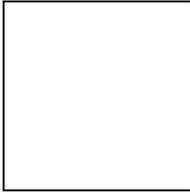

Figure 9
- Installing the reversing switch is done in two steps as shown in Figure 9. **Step 1:** connect the molex cable A. **Step 2:** once connected, push the connectors through the hole into the machine while at the same time securing the switch to the machine using the supplied 12mm hex nuts.